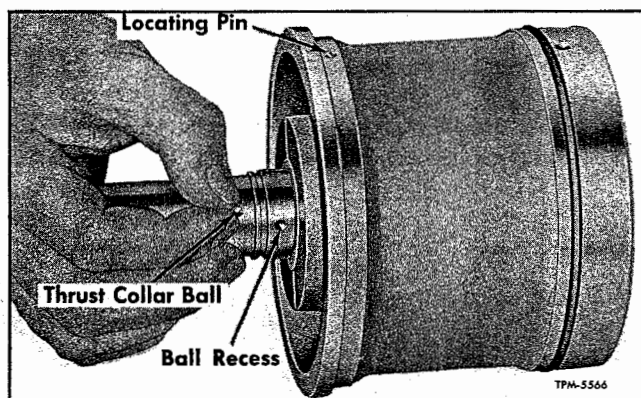

Figure 20—Thrust Collar Ball Location
2. Place crankshaft and head assembly on clean work bench. Remove rubber O-ring seal (42) from groove in bearing head (14).
3. Using Tru-Arc pliers, remove snap ring (46) which retains thrust collar (48) on shaft. Remove thrust collar and the small ball (47) from depression on crankshaft (fig. 20).
4. Slide bearing head (14) from crankshaft.
5. If necessary, thrust washer (49) and oil re-
1. If thrust washer (49) and oil restriction plug (52) was removed from bearing head, install these parts. Install washer with oil grooves away from bearing head.
2. Insert crankshaft (11) into bearing head, then, position small ball (47) into depression on crankshaft as shown in figure 20. Install thrust collar (48) on crankshaft with groove in collar aligning over ball on crankshaft.
3. Install thrust collar retaining ring (46) against thrust collar. Be sure that retaining ring is firmly seated in crankshaft groove.
4. Install rubber O-ring seal (42) into groove at rear of bearing head (14).
5. With compressor oil applied to O-ring seal insert crankshaft and bearing head assembly into compressor housing making sure locating pin (44) on bearing head (fig. 20) engages groove in compressor housing.